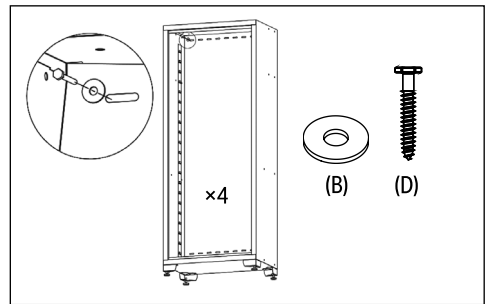

Fig. 11
4. Position the drawer cabinets under the workbench and place the tall cabinet against the workbench. Open the tall cabinet door and secure to the wall using 4 × M5 hex tapping bolts (D) and flat washers (B) (Fig.11).